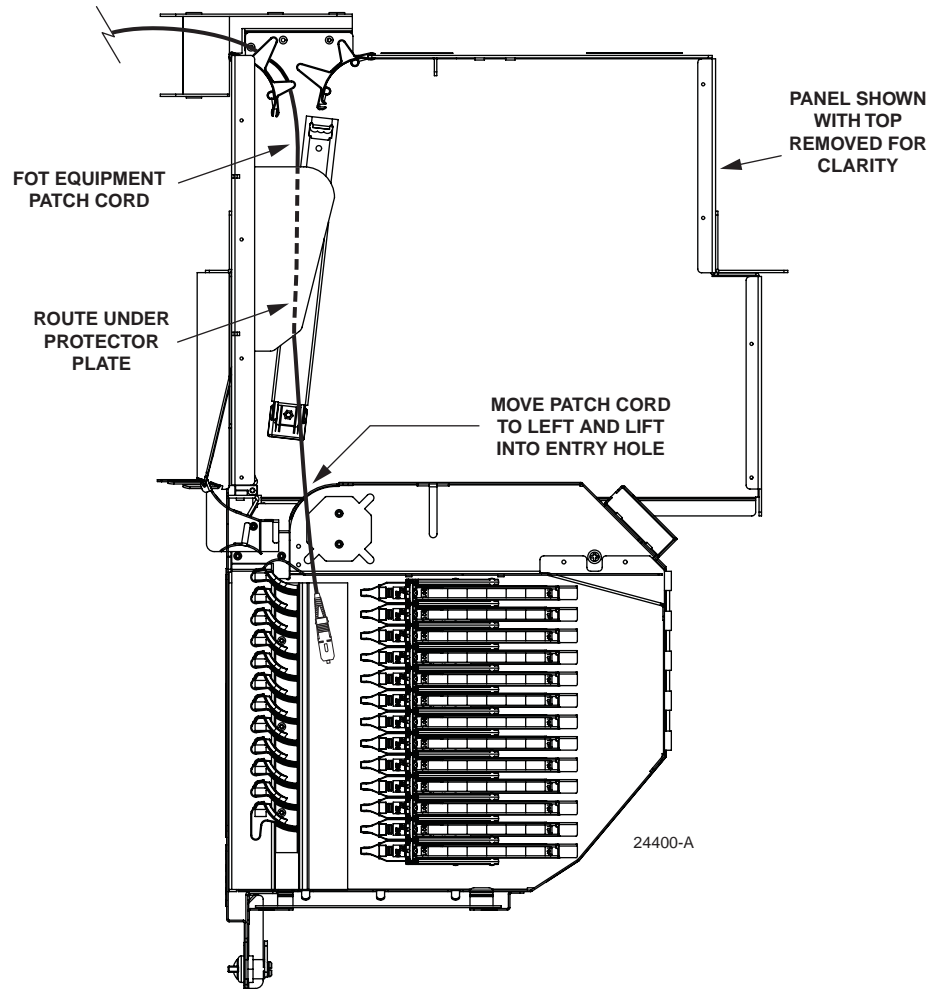

Figure 59. Positioning Patch Cord Within MicroVAM Chassis - Rear Entry (13-Slot Chassis Shown)
8. Lift up the connector and route the patch cord above and behind the rear top edge of the hinged drawer and then through the opening at the rear left corner of the drawer as shown in Figure 59 and Figure 60.